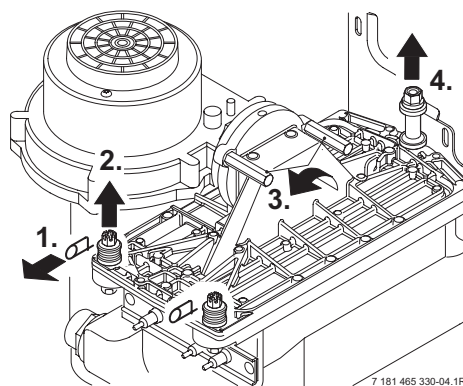

Fig. 52
- Remove the clips (1) and unscrew the two bolts (2). Refer to fig. 52.
- Unscrew and remove the two hexagon screws securing the fan (3).
- Slacken fully the rear securing bolt (4).